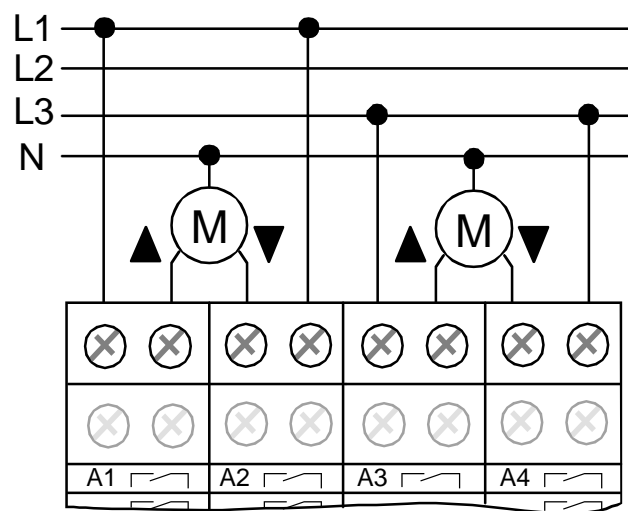

Fig. 2: Electrical connection for 230 V drives in shutter mode
- Connect the drives as shown in Fig. 2 (wiring example).